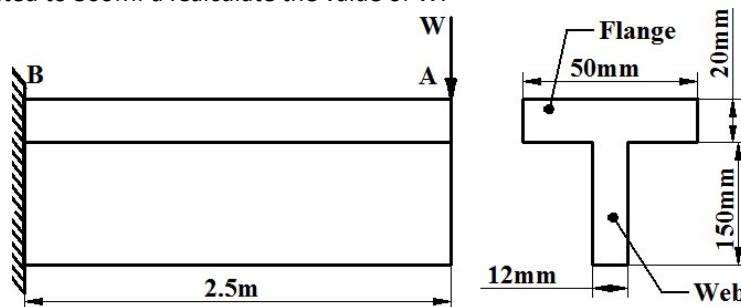

Figure 35
16. A beam of T section has a length of 2.5m and is subjected to a point load as shown in the **Figure 35**. Calculate compressive bending stress and plot the stress distribution across the cross section of the beam. The maximum tensile stress is limited to  $300\text{MPa}$ . Calculate the value of  $W$ .